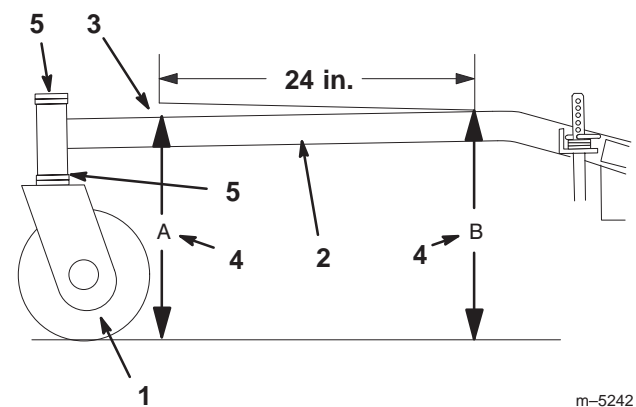

Figure 48
The carrier frame must have a pitch of a 1/4 in. over the length of 24 inches on the carrier frame (Fig. 48).
1. Measure out 24 inches on the carrier frame (Fig. 48).
2. Measure carrier frame height at location “A” (Fig. 48).
3. Measure carrier frame height at location “B” (Fig. 48).
4. The height at location “A” must be a 1/4-3/8 in. lower than location “B” (Fig. 48).
5. If the carrier frame is not correct, move caster spacers to make it a 1/4-3/8 in. pitch (Fig. 48). Move spacers from top or bottom to make the correct pitch.